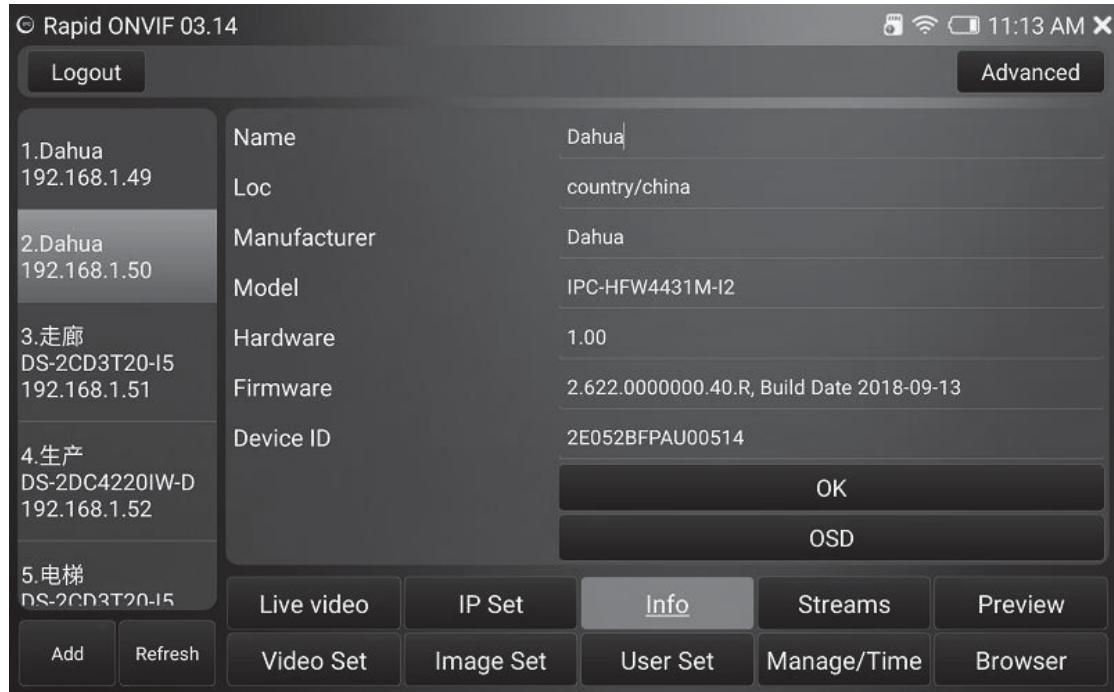

Figure 16
1) Device information viewing, touch the ‘device information’ button to view the camera information, touch the item to edit value then touch OK to apply, as shown in Figure 16